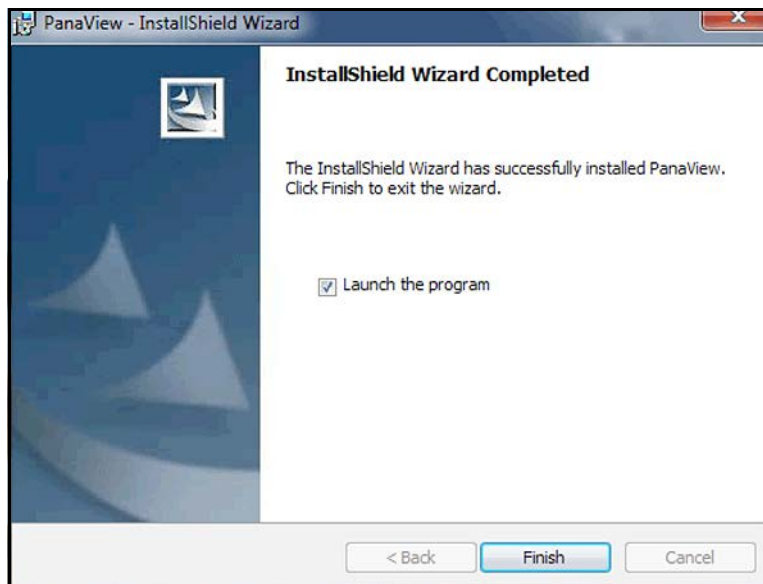

Figure 9: InstallShield Wizard Completed Screen
8. After all of the PanaView files have been copied to your hard drive, the screen shown in *Figure 9* below opens. Click on the **[Finish]** button to close the InstallShield Wizard.